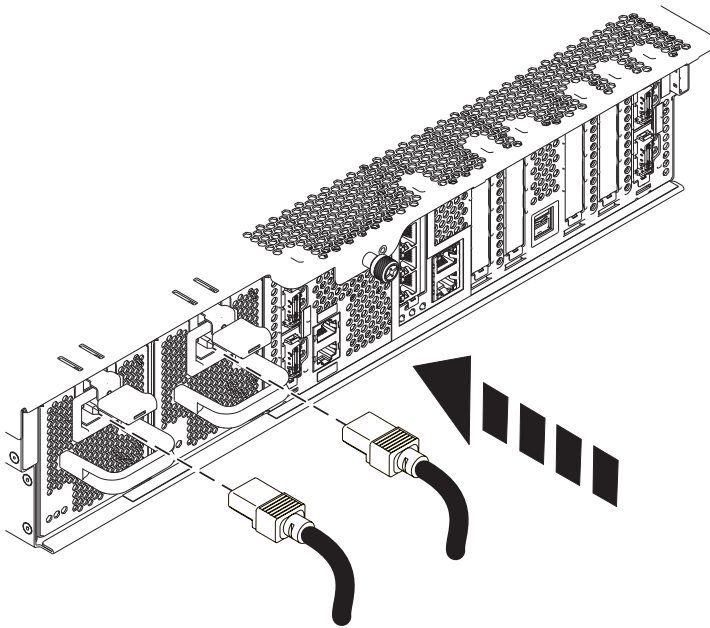

Figure 4. Installing power cords
- b. Connect all power cords to the unit you are servicing. See Figure 4.